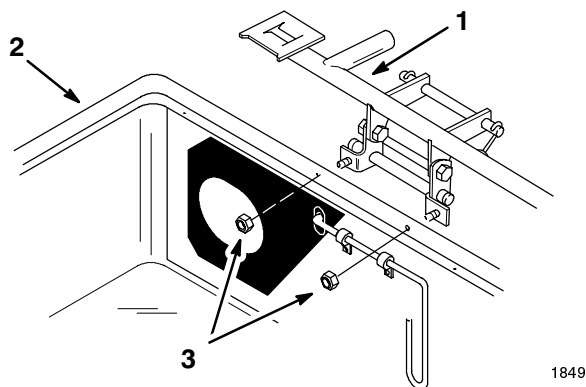

Figure 9
3. Assembly the frame assembly to the bagger cover with (2) 1/4" locknuts (Fig. 9).